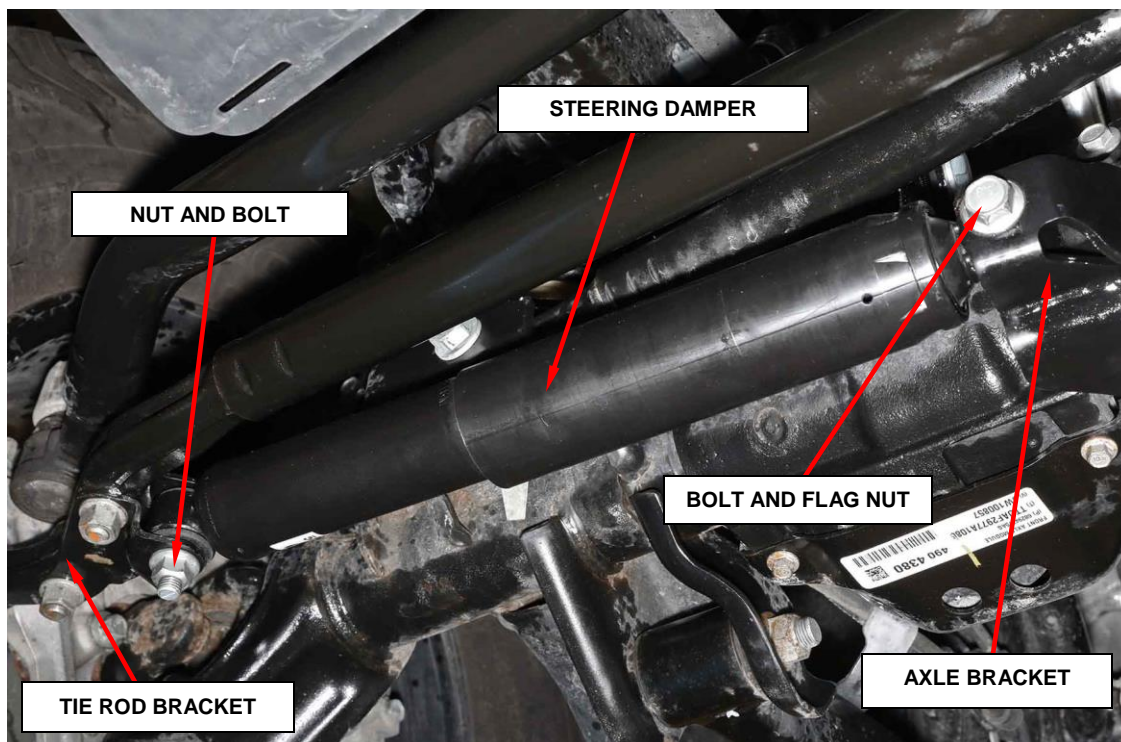

Figure 1 – Steering Damper
3. Remove the steering damper nut and bolt from the tie rod bracket (Figure 1).
7. Install the **NEW** steering damper bolt through the axle bracket and start it a few threads into the **NEW** flag nut (Figure 1).
9. Tighten the **NEW** steering damper nut on the axle bracket to 80 N·m (59 ft. lbs.) (Figure 1).